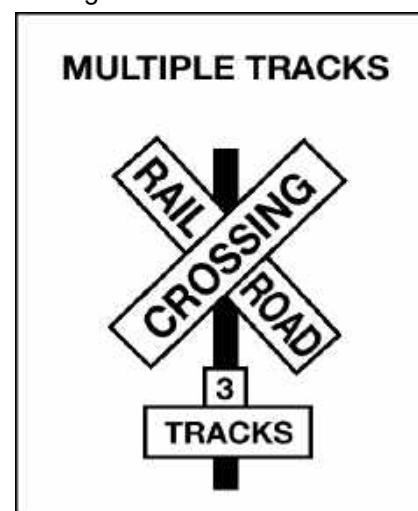

Figure 2.17
**Cross-buck Signs.** This sign marks the grade crossing. It requires you to yield the right-of-way to the train or other on-track equipment. If there is no white stop line painted on the pavement, vehicles that are required to stop must stop no closer than 15 feet or more than 50 feet from the nearest rail of the nearest track. When the road crosses over more than one track, a sign below the cross-buck indicates the number of tracks. See Figure 2.17.